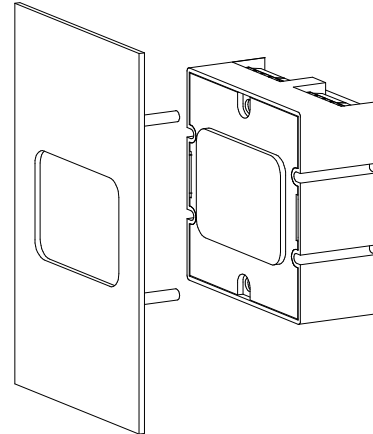

Figure 1 – Display to be fixed on car and landing control station by means of welded bolts
- For plate up to 2 mm in thickness. Special 2 mm protruded screen to get it grade line with the control station plates of this thickness (Figs. 1, 2 and 5).